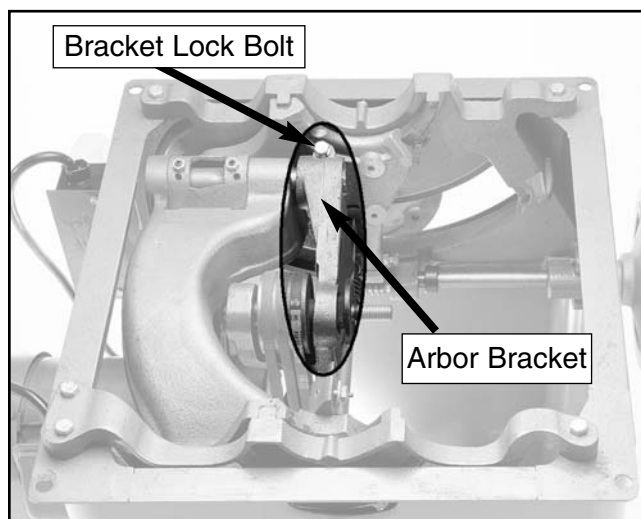

Figure 43. Adjusting arbor bracket.
3. Loosen the bracket lock bolt shown in **Figure 43**.